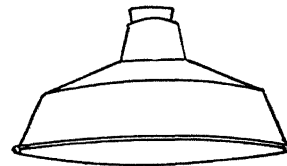

Fig. 13
power. The RLM dome, Fig. 13, has a porcelain enameled surface. This dome directs light downward and serves as a protection against glare.
*Yard.*— Yard lamps which can be turned on and off at the house, the barn, and other convenient locations are useful. A yard lamp mounted about 15 feet above the ground permits a wide spread of light. Higher mounting is desirable in many cases to give greater spread of light. A lamp so mounted and equipped with a shallow dome (see Fig. 14), or an RLM reflector as shown in Fig. 13, directs all light downward and outward.